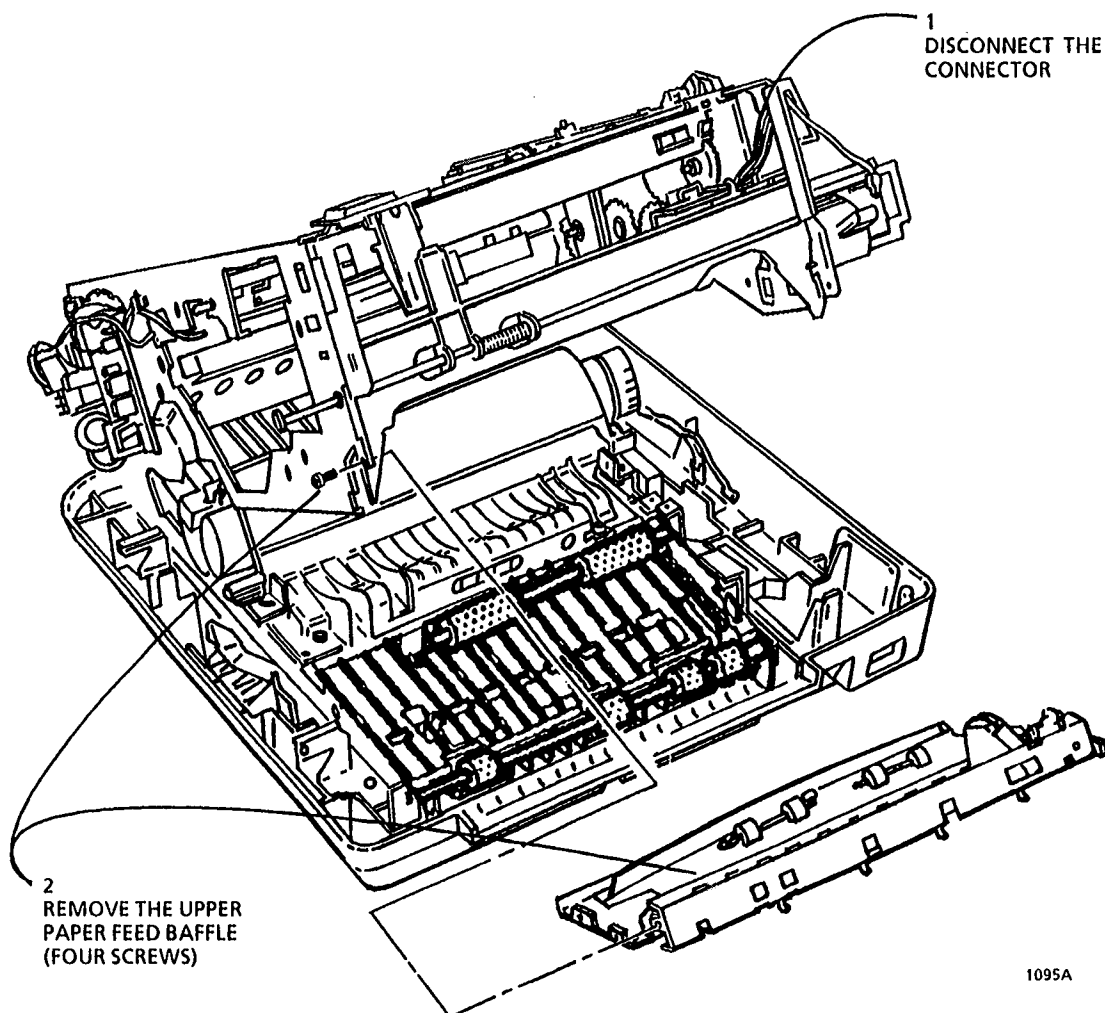

Figure 1. Removing the Upper Paper Feed Baffle
4. (Figure 1): Remove the Upper Paper Feed Baffle.